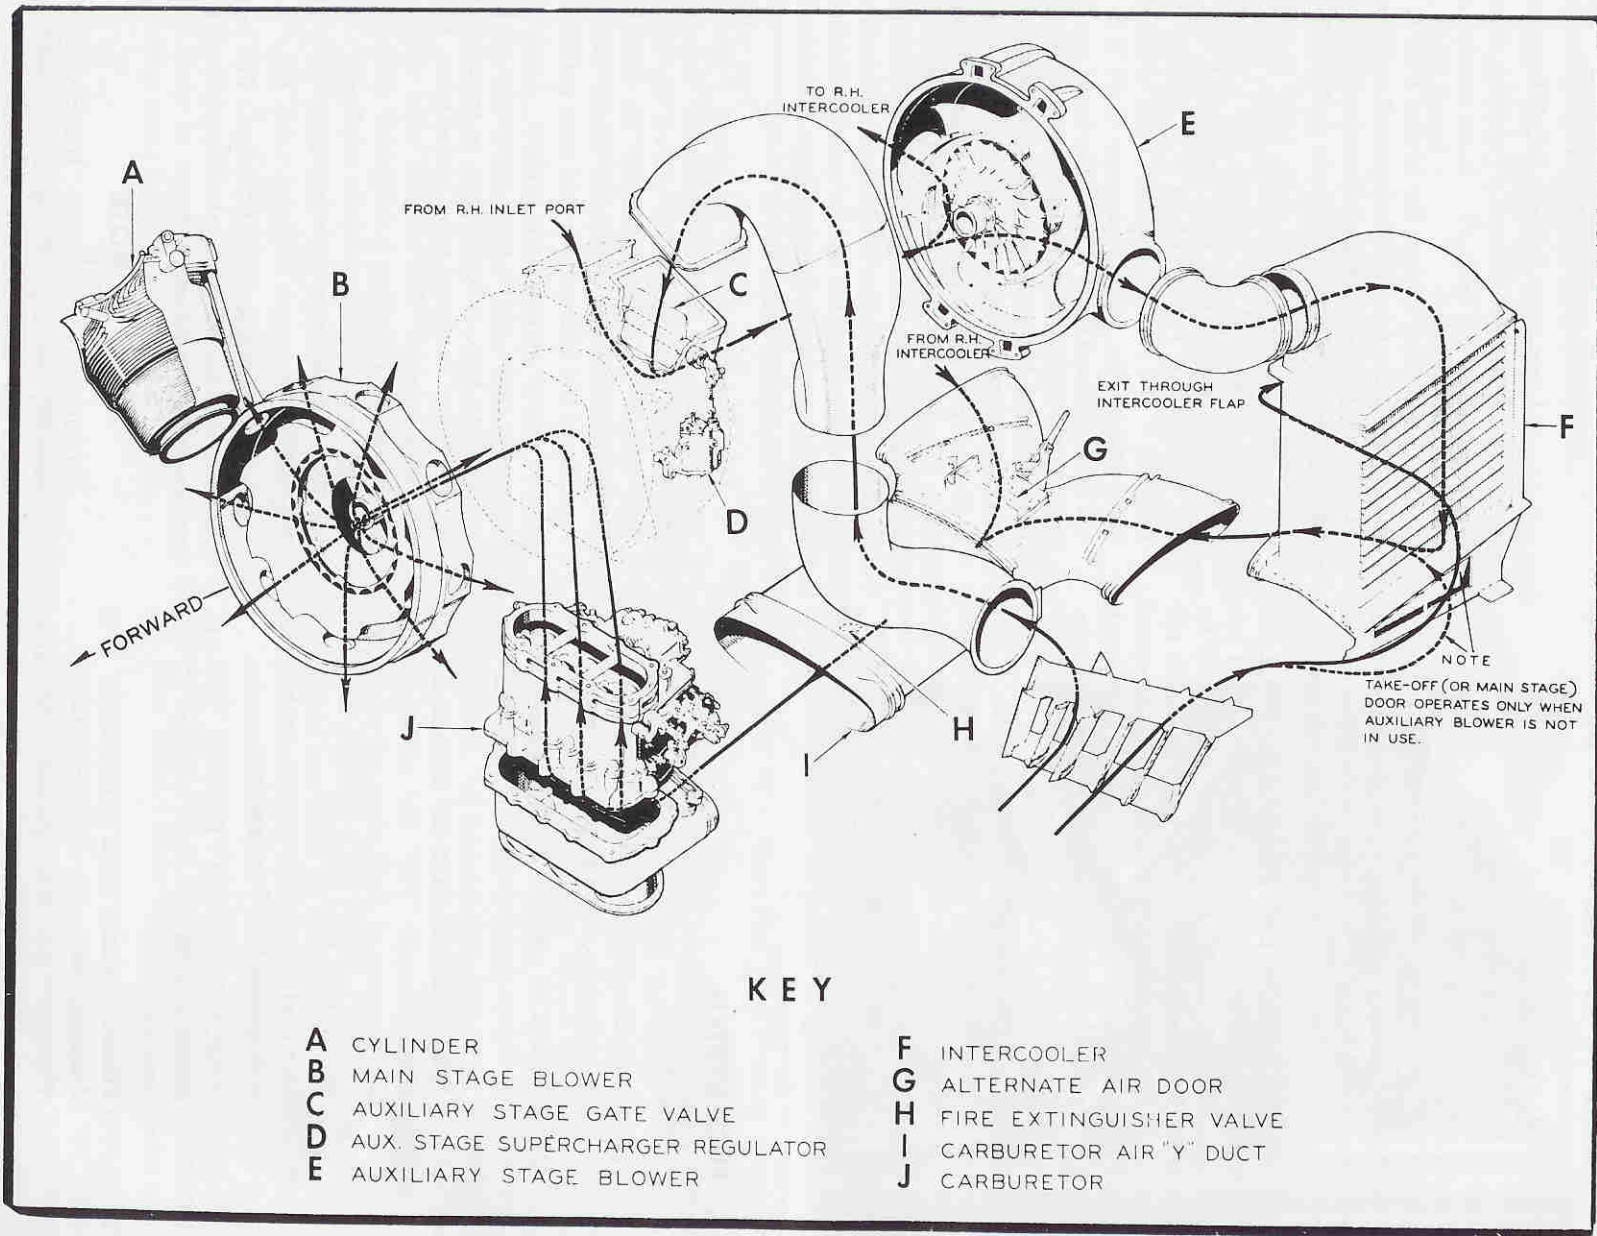

Fig. 9 — Induction System
(4) **SUPERCHARGER CONTROL.**—The two stage supercharger induction system installation is shown diagrammatically on figure 9. The main stage impeller is geared directly to the crankshaft, and the auxiliary stage impeller is driven through oil-operated clutches by means of which it can be disconnected from the crankshaft (“NEUTRAL”) or engaged in either of two fixed gear ratios (“LOW” or “HIGH”).